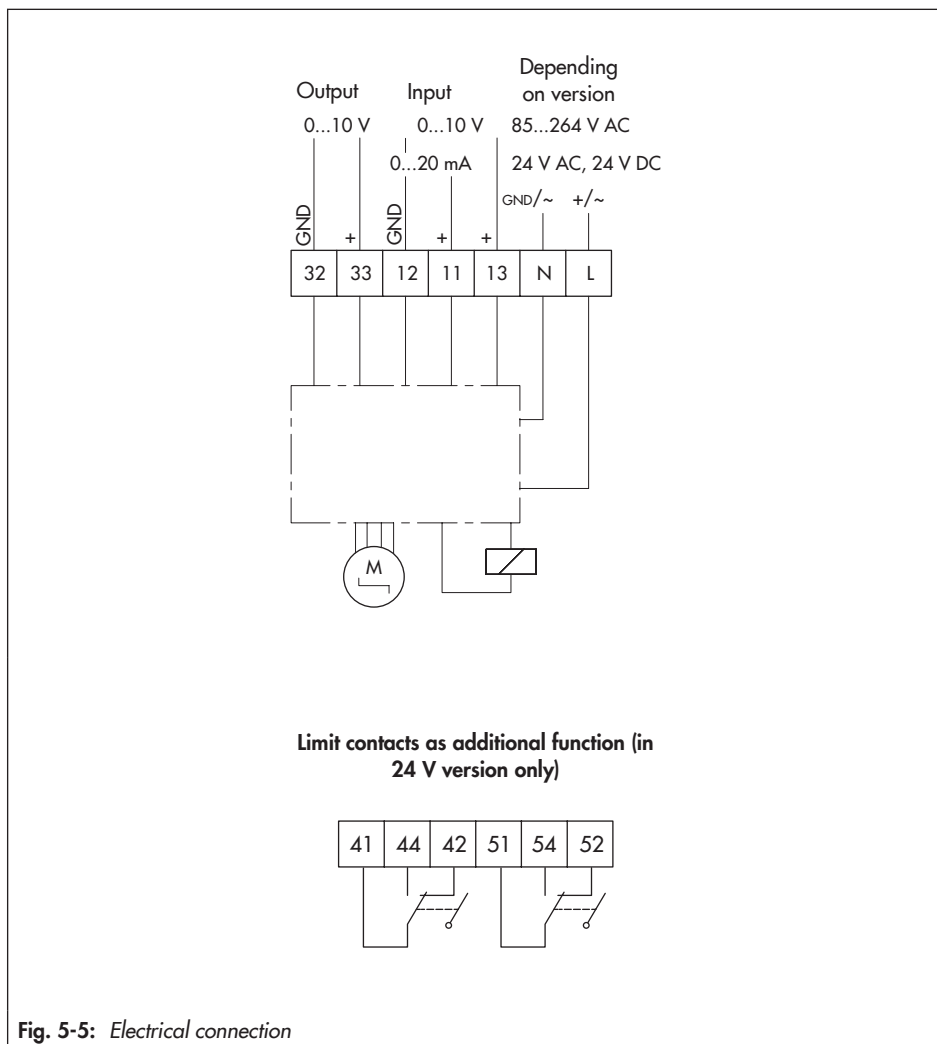

Fig. 5-5: Electrical connection
- Connect the wiring as shown in Fig. 5-5.